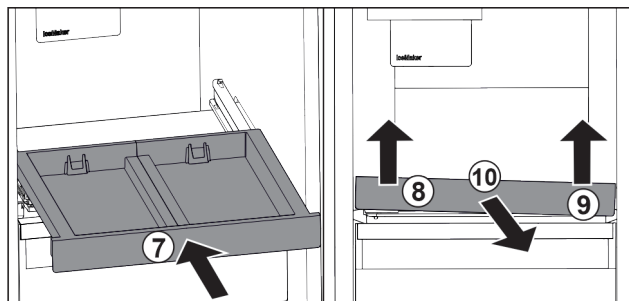

Fig. 99
- ▶ Slide in the pull-out board. Fig. 99 (7)
- ▶ Lift the pull-out board at the front left. Fig. 99 (8)
- ▶ Lift the pull-out board at the front right. Fig. 99 (9)
- ▶ Take out the pull-out board to the front. Fig. 99 (10)